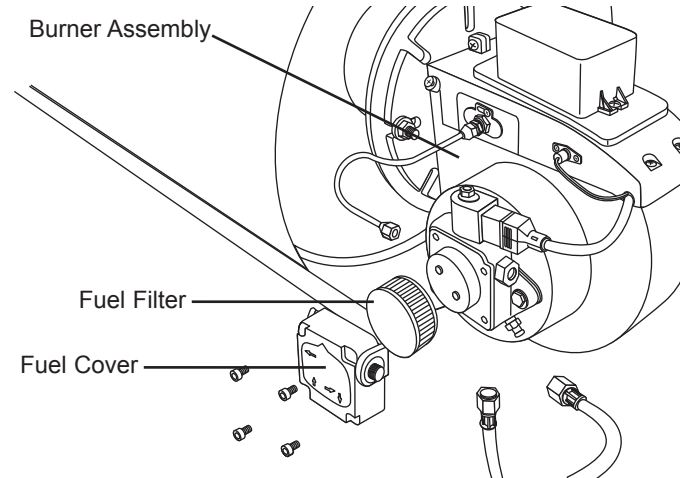

Figure 12: Removing Fuel Filter
- Remove filter cover by unscrewing four screws (see Figure 12).